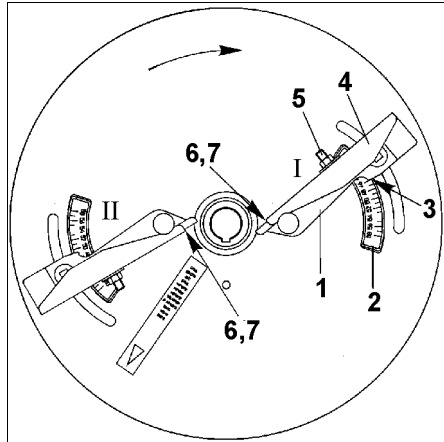

Fig. 45
is done by the telescopic vanes (Fig. 45/1) according to the data given in the setting chart, depending on kind of fertilizer to be spread and the distance of the first track from the field's side as follows:
- After having slackened the corresponding thumb nut, swivel the telescopic blades (Fig. 45/1) on the spreading within the range of the scale (Fig. 45/2) Read off figure on the reading line (Fig. 45/3) and retighten thumb nut.
- After slackening the nut (Fig. 45/5) set outer vane part (Fig. 45/4) on a higher letter value on the scale (/6) Read off the position of the vane outer part on the reading line (Fig. 45/7) on the scale.